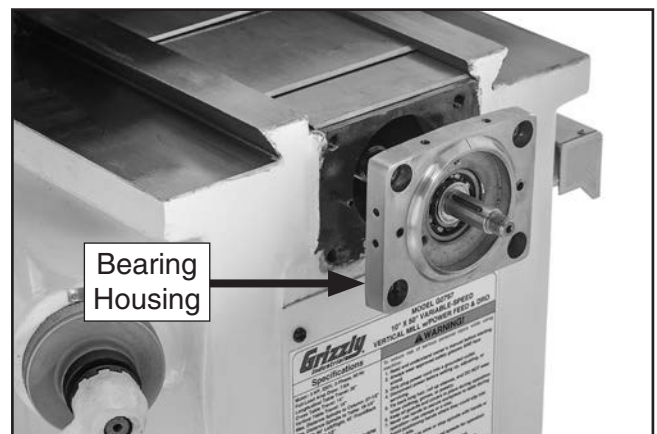

Figure 84. Y-axis bearing housing.
4. Remove four cap screws from bearing housing, then slide it off leadscrew (see **Figure 84**).